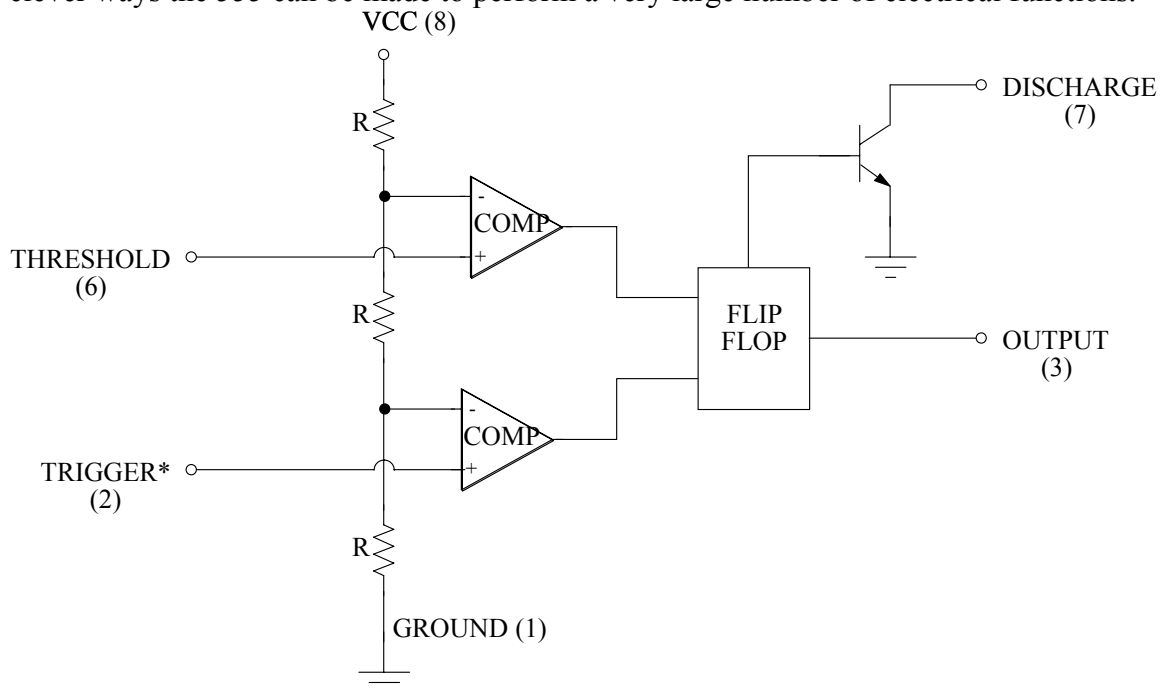

Figure 1. Simplified 555 schematic.
A. Background: The most popular timer or waveform-generator IC is the 555 (and its successors). It is also an easily misunderstood chip. A simple equivalent circuit of the 555 is shown in Figure 1. A resistor divider network produces reference voltages of $1/3V_{CC}$ and $2/3V_{CC}$ for the op amps — V_{CC} is the voltage used to power the chip, typically 5 volts or more. The two op amps function as comparators causing the output to change whenever the input voltage goes above or below their reference input. For example, whenever the TRIGGER* input is below $1/3V_{CC}$ the output of the 555 is high (near V_{CC}). The THRESHOLD works in exactly the opposite way; whenever the THRESHOLD input is above $2/3V_{CC}$ the output of the 555 will be low (approximately zero). There is also a separate transistor output called DISCHARGE which can be used as a separate switch to turn things on and off. By connecting these inputs and outputs in clever ways the 555 can be made to perform a very large number of electrical functions.